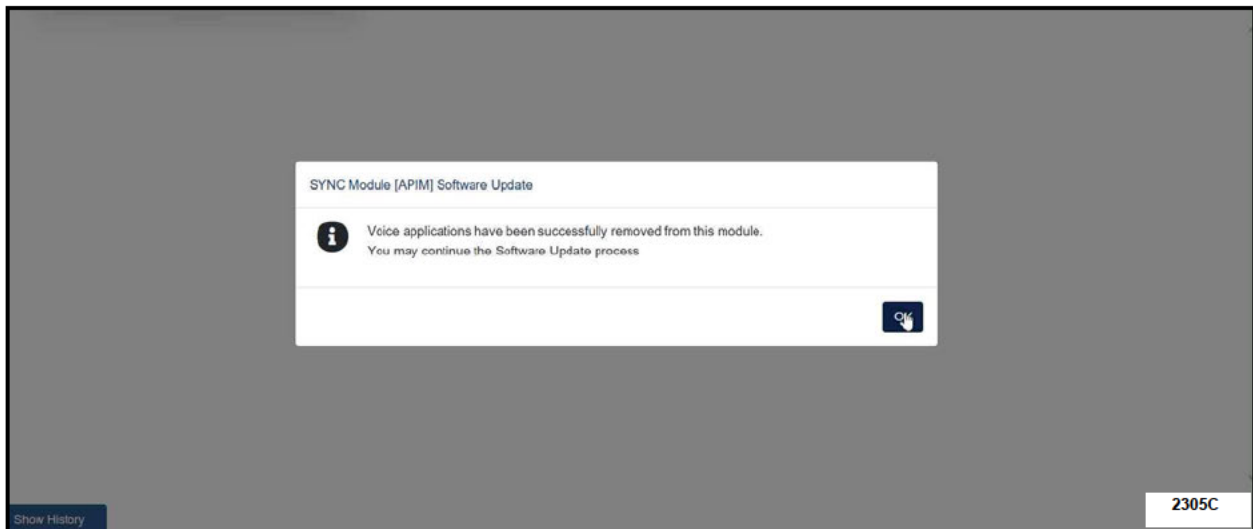

FIGURE 3
28. Continue to follow all on-screen instructions carefully until the voice application has been successfully removed. See Figure 3. (app deleted)